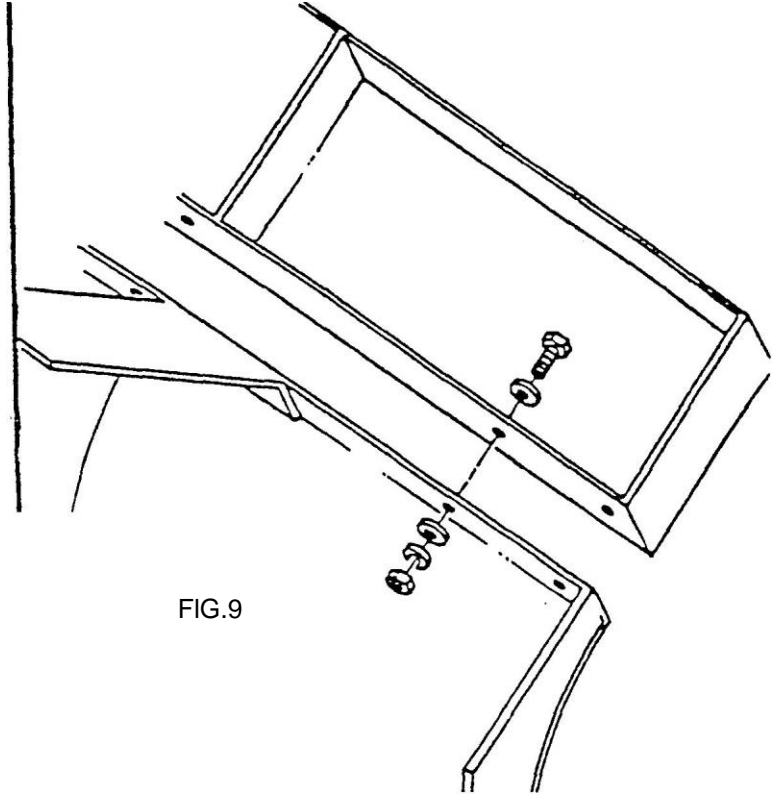

FIG.9
- (1) Attach the blade extension to the top of the blade.
Use a 1/2-13 x 1-1/4 hex hd. capscrew, nut, lock-washers and (2) flatwashers in each hole as shown in FIG. 9. Tighten securely.